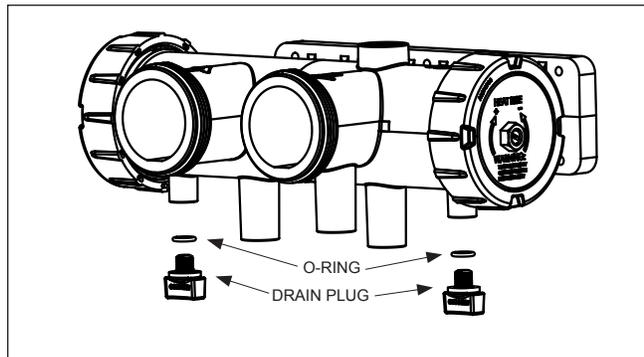

Figure 20. Draining the Heater
4. Remove the drain plugs from the inlet/outlet header as shown in Figure 20, and completely drain the heater before the first frost.